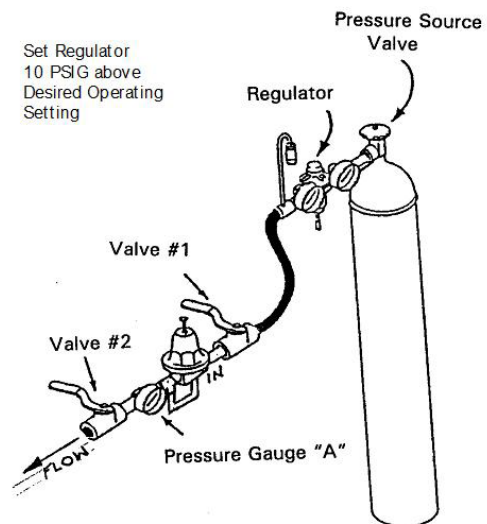

Figure 3
1. Connect the combo regulator to a pressure source as shown in Figure 3.